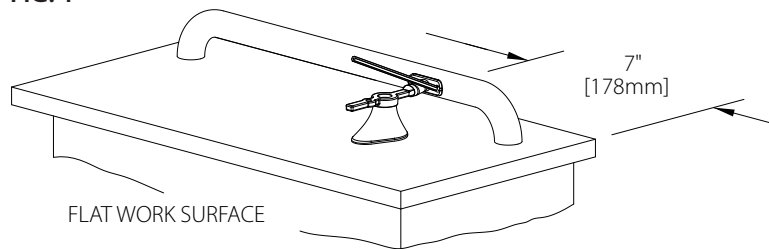

FIG. 2
2. Attach the brackets to the rail using two #8-x 3/4" [19mm] Phillips Pan-head self-drilling screws per bracket. See Fig. 2.